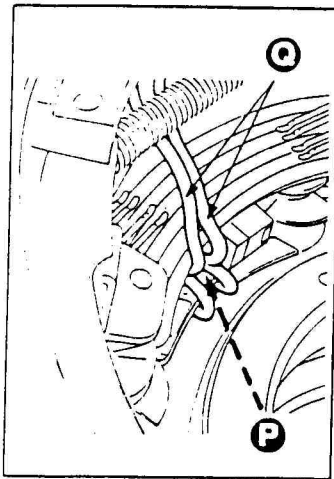

Fig. 19
7. Arrange so that the synchro cord will not touch to the contact ⑥ of the electro-motive set and to the front lens frame ⑦. (See Figs. 19 and 20.)